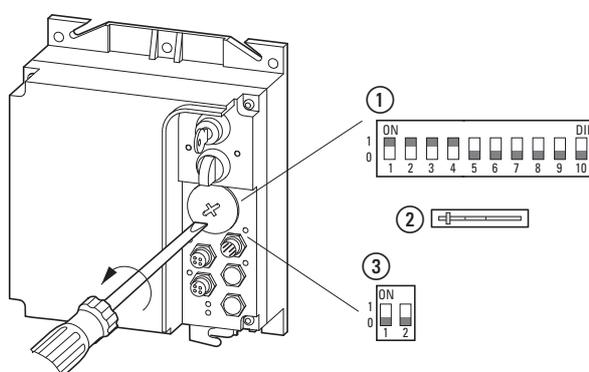

Figure 83: DIP switches underneath screw plug
red	Fault message: A fault has been detected and is permanently active. <ul style="list-style-type: none"> <li>Motor overload (overcurrent) → Check motor and drive unit  (reset when motor has cooled) → Short circuit in motor cable → Check DIP switch (DIP 1- DIP 4)</li> <li>Thermistor/cable monitoring → Check motor and drive unit  (reset when motor has cooled down) → No motor cable connected (motor outgoer socket) → Jumper T1/T2 in motor terminal box missing on motors without temperature sensor → Wire jumper (②, Figure 83, page 105) not closed with motor cable disconnected(→ for servicing only)</li> <li>DIP switch (under screw plug) with invalid settings (→ Page 106)</li> <li>Overload/short circuit on sensor inputs I3/I4 or actuator output O3</li> <li>Current lower limit undershot (→ Page 109)</li> </ul> On a temporary or rectified fault this LED flashes until the Reset → Page 109 command is issued (key switch).
To do this (i.e., to disable the quick stop function), DIP switch 1 on the left of section ③ in → Figure 83, page 105 must be ON.